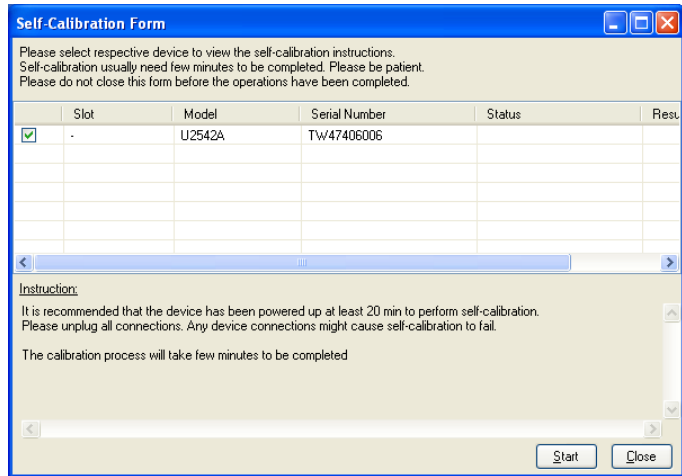

Figure 2-8 Self Calibration Form dialog box in Agilent Measurement Manager with a device being selected
- 5 Select the instrument that you would like to perform self-calibration and the **Start** button will be enabled. Click **Start** to proceed. See Figure 2-8.